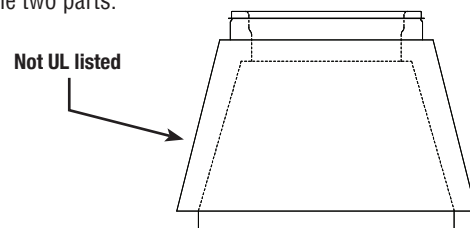

Figure 70 - Square to round adaptor
1. When the hood is equipped with a square or rectangular collar, a square to round adaptor is needed to connect the round CIX chimney to the hood (See **Figure 70**).